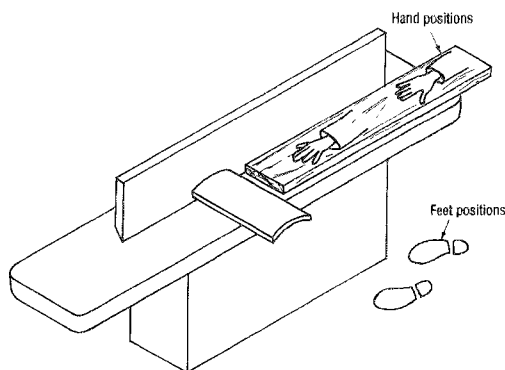

Fig. 3.28 Step 1 of feeding.
- *Step 1.* Apply light pressure from both hands as the board is entered to the cutters. Feet should be turned to face forward with the body weight evenly distributed (**Fig. 3.28**).